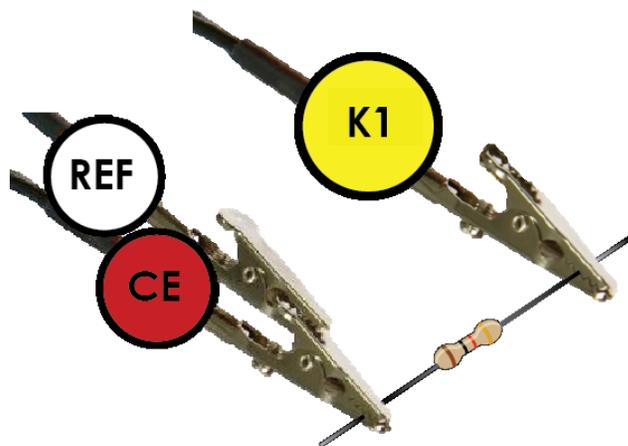

Figure 4: Two Electrode Configuration for Diagnostic Testing with an External Dummy Cell, in this case a Resistor
- Then short the counter (CE) and the reference (REF) leads together, and connect them to the other end of the resistor (see Figure 4).